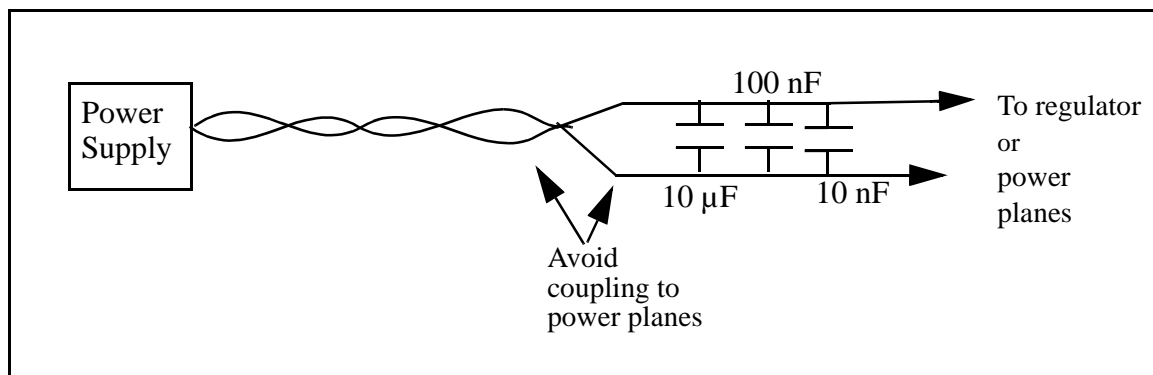

Figure 10. Power Supply Connections
- Decouple the power-supply input lines and filter incoming power as shown in Figure 10.